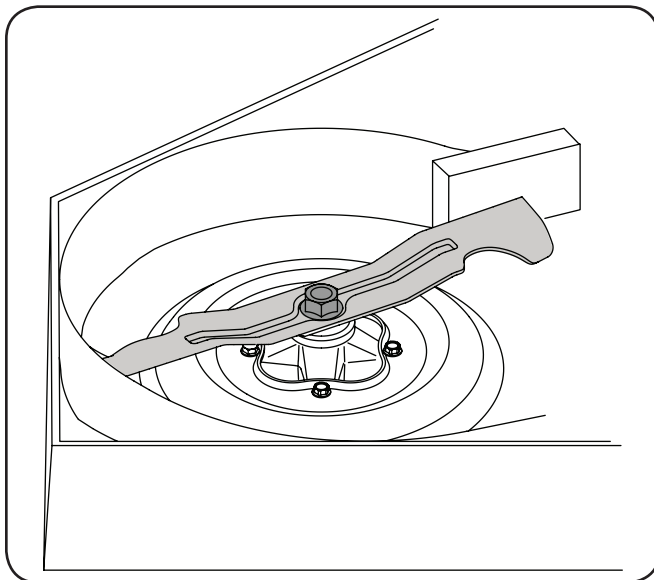

Figure 7-4
3. Wrap a rag around one end of the blade and grasp it to prevent it from turning, or secure the blade by placing a block of wood between the blade and the deck housing. See Fig. 7-4.